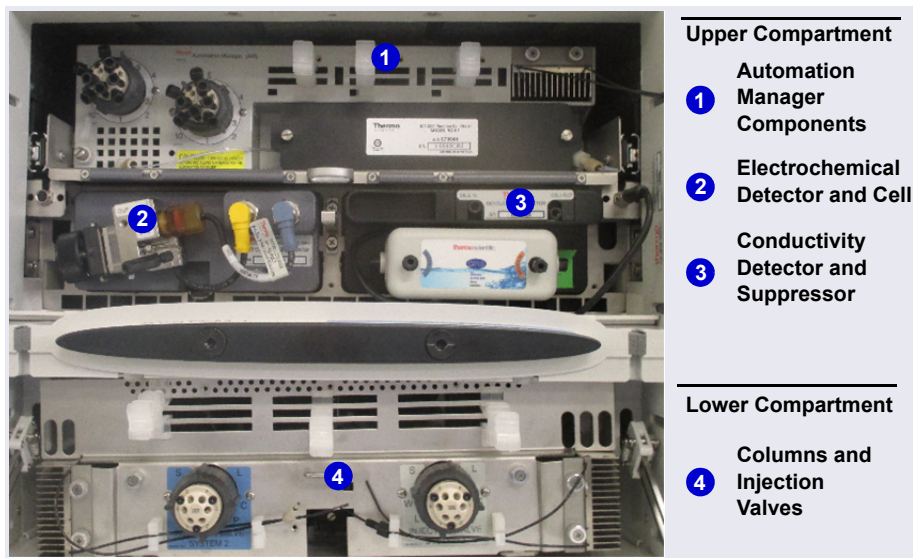
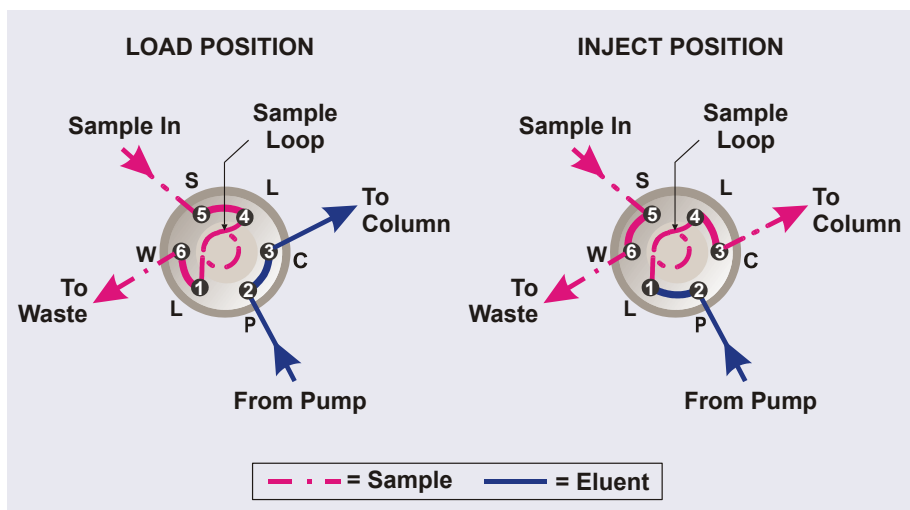

Figure 2-22. Example DC Interior View
Figure 2-26. Injection Valve Flow Schematics (6-Port Valve)
Figure 2-22 shows the interior compartments of a DC that is configured with the components for two analytical IC systems. System #1 is used for electrochemical detection applications and system #2 is used for conductivity detection applications.
The 6-port valve (P/N 075917) is the standard injection valve for analytical IC systems. It is installed in the lower compartment of the DC (see Figure 2-22). Figure 2-26 shows flow schematics for the 6-port valve.
Each Dionex ICS-6000 Conductivity Detector (CD) consists of a heated conductivity cell and the electronics required for collecting the conductivity data and sending it to the computer and the analog output (if installed). The CD is installed in the upper compartment of the DC (see Figure 2-22).